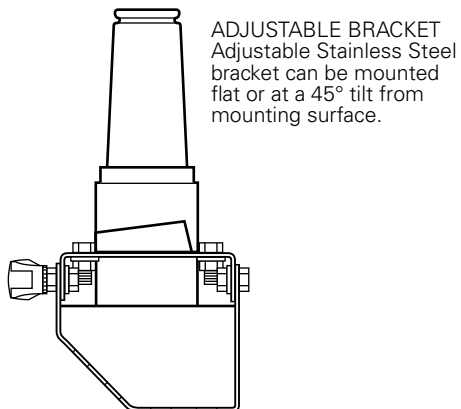

Figure 3. Adjustable Bracket.
- Stainless Steel Adjustable Mounting Bracket and Assembly hardware. See Figure 3.